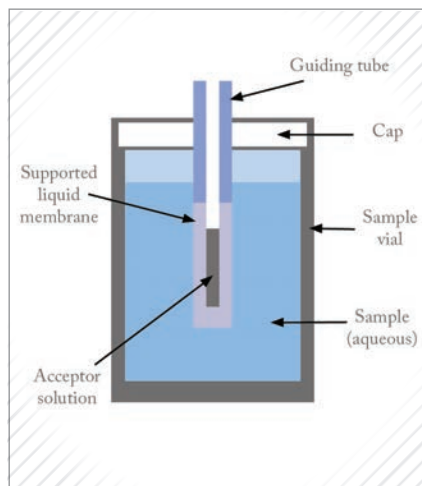

Figure 1. Principle of LPME
Liquid-phase microextraction (LPME) is a microextraction technique for sample preparation prior to chromatography, mass spectrometry, and electrophoresis – and it was first presented by our group in 1999 (1). The target analytes are extracted from an aqueous sample through a thin film of organic solvent, which is loaded as a supported liquid membrane (SLM) in the pores of a porous hollow fiber's walls, and end up in an acceptor solution located inside the lumen of the hollow fiber (Figure 1).